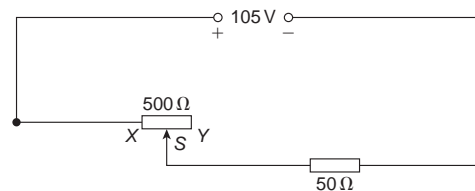

Figure RT2.3
- Is the circuit a potentiometer or a rheostat? (5)
- For the circuit shown in Fig. RT2.3, calculate the current flowing in the $50\ \Omega$ load and the voltage drop across the load when
- point S coincides with point Y . (5)